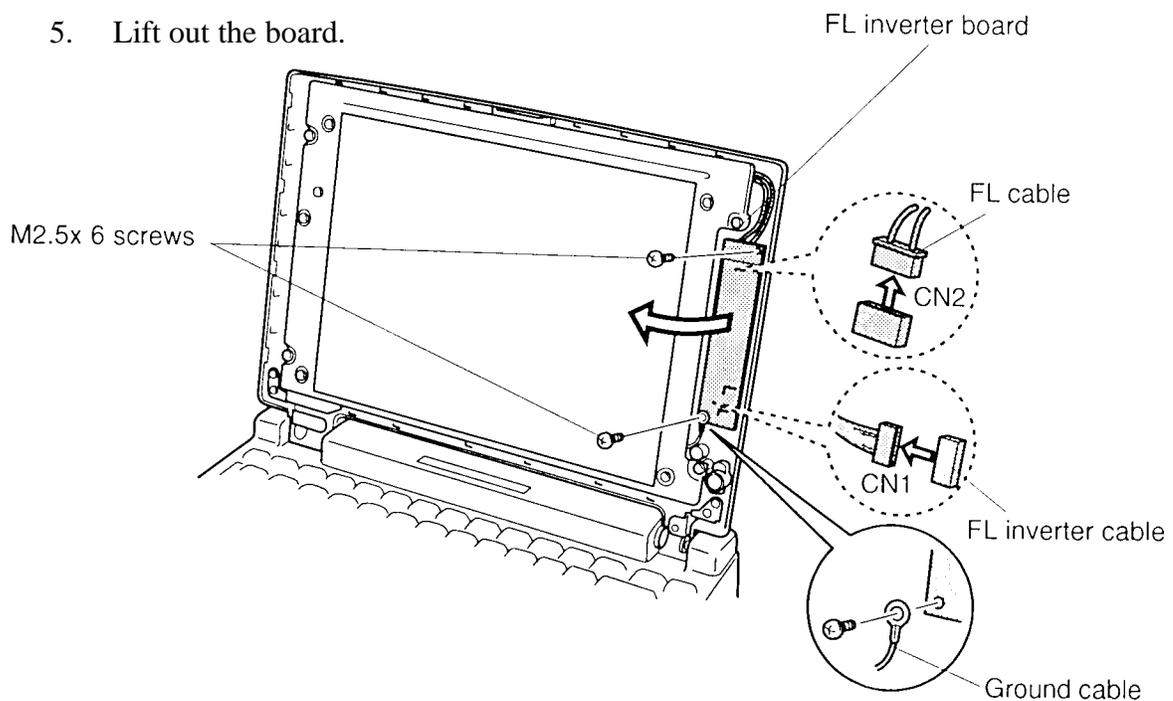

Figure 4-39 Removing the TFT FL inverter board
To remove the TFT FL inverter board, follow the steps below and refer to figure 4-39.
To install the TFT FL inverter board, follow the steps below and refer to figure 4-39.
2. Connect the **FL inverter cables** to **CN1** and the **FL cable** to **CN2** on the FL inverter board (figure 4-39).
3. Secure the **FL inverter board** with **two M2.5x6 screws** (figure 4-39).